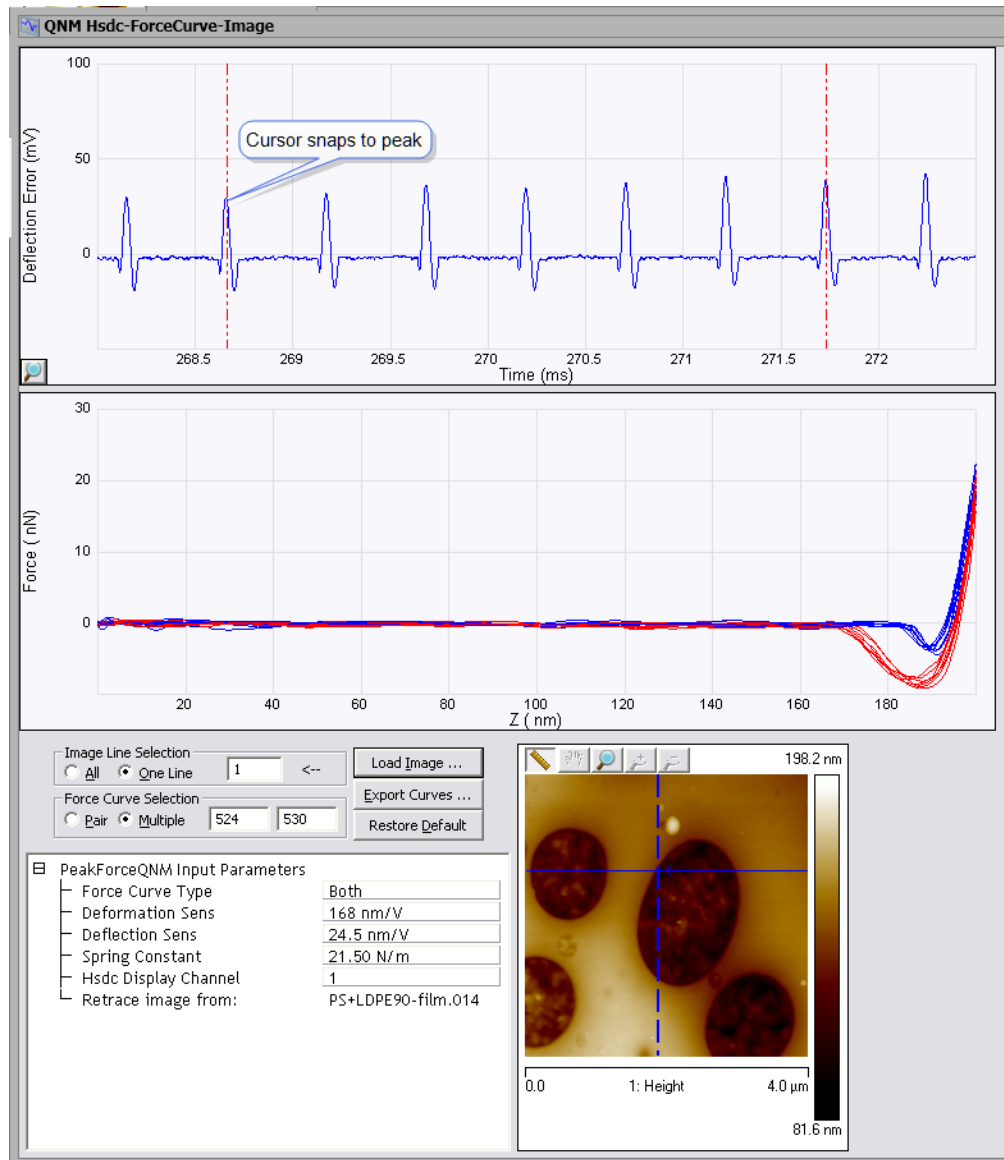

Figure 8.1f: Multiple Force Curve Selection
- **Multiple**: Displays all the force curves between the vertical cursors. The location of the force curves can be controlled by dragging either the dashed blue cursors in the image, the dashed red cursors (see Step 7 in the QNM Force Curve Procedure (page 268) page) in the time display or entering the numbers in the **Force Curve Selection** panel. See Figure 8.1f.